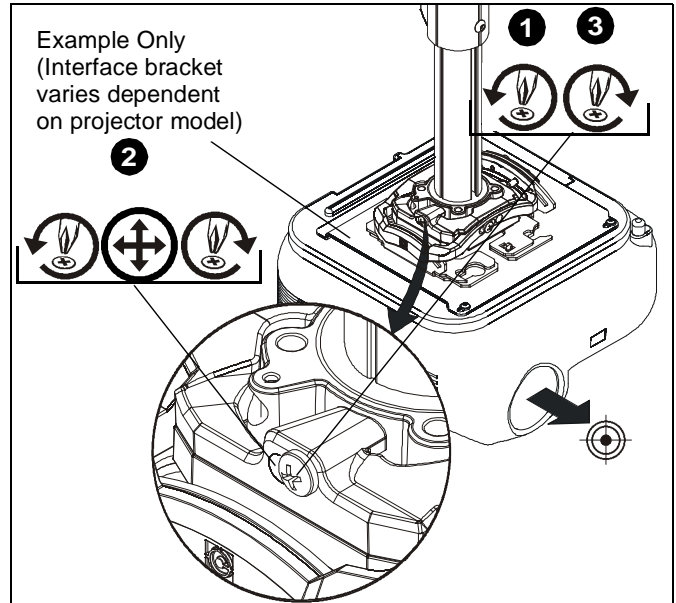

Figure 17
1. Loosen YAW adjustment locking screw using a #2 Phillips screwdriver. (See Figure 17)
2. Turn YAW micro-adjustment screw right or left using a #2 Phillips screwdriver until image is properly aligned on target. (See Figure 17)
3. Tighten YAW adjustment locking screw using a #2 Phillips screwdriver. (See Figure 17)